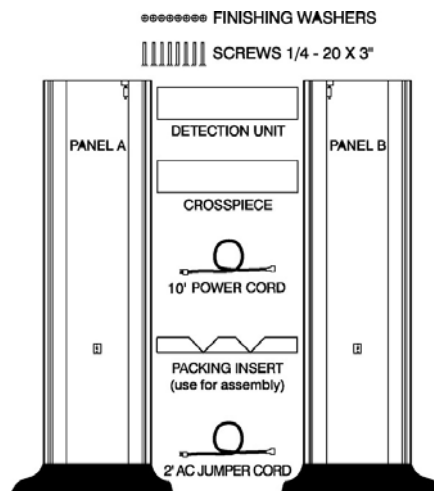

FIGURE 2-1
2. Arrange the major components as shown in Figure 2-1.